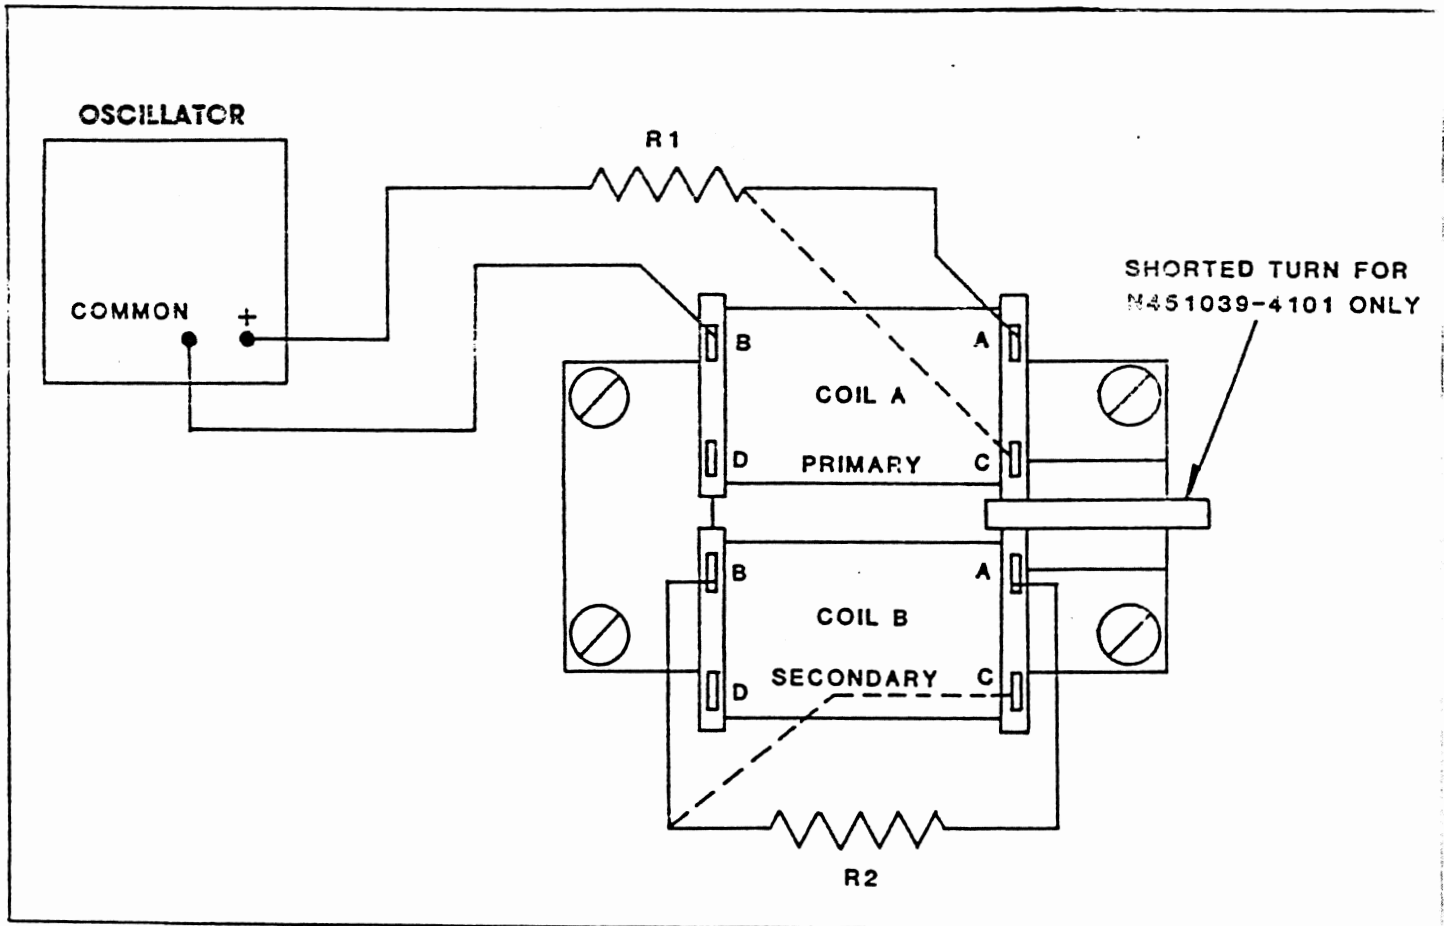

Figure 8. Transformer Test Set-up
3. To perform an operational test on a transformer, electrically isolate it from its surrounding circuitry by disconnecting one end of the slate lead wire connecting the transformer secondary windings. Then connect the transformer into the test circuit shown on Figure 8.